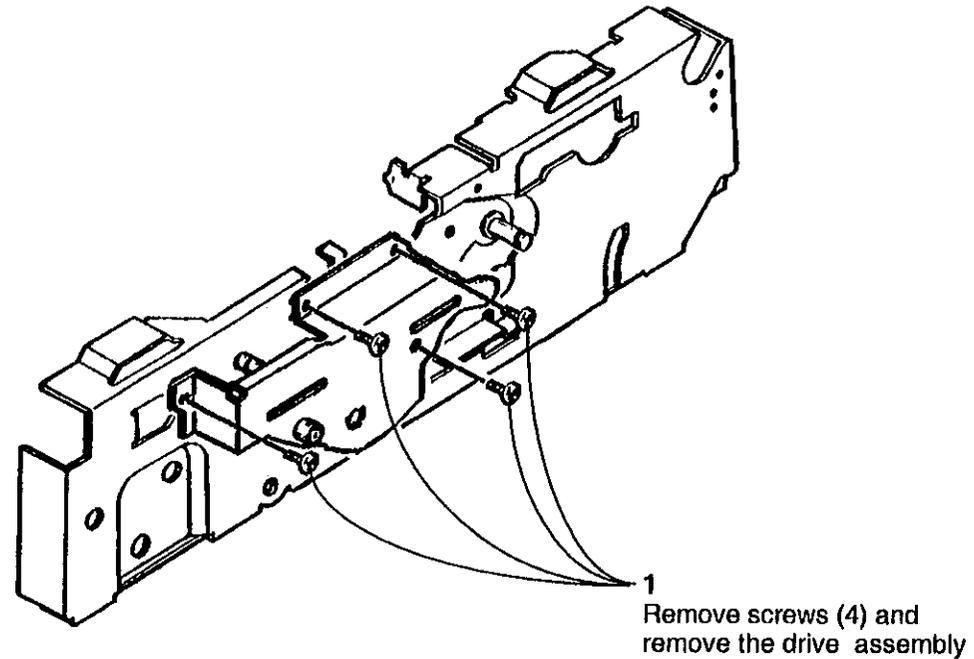

Figure 1. Removing the Fuser / Paper Transport Drive Assembly
- 2 (Figure 1): Remove the Fuser / Paper Transport Drive Assembly